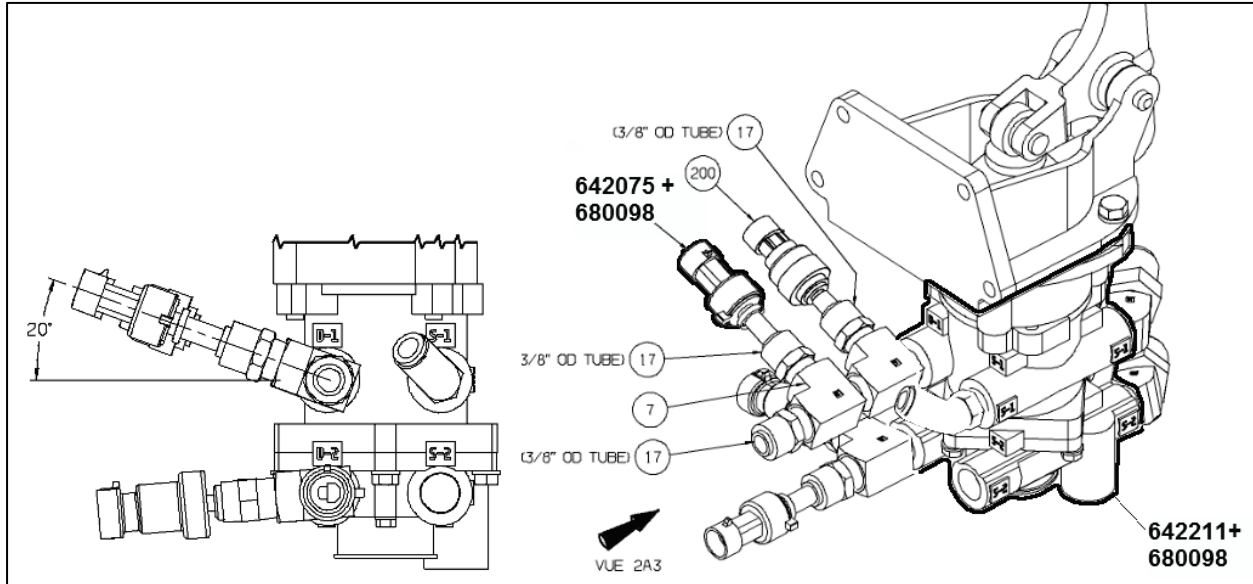

Figure 2
9. Under the floor, remove T-nuts in former holes. (Fig. 2)